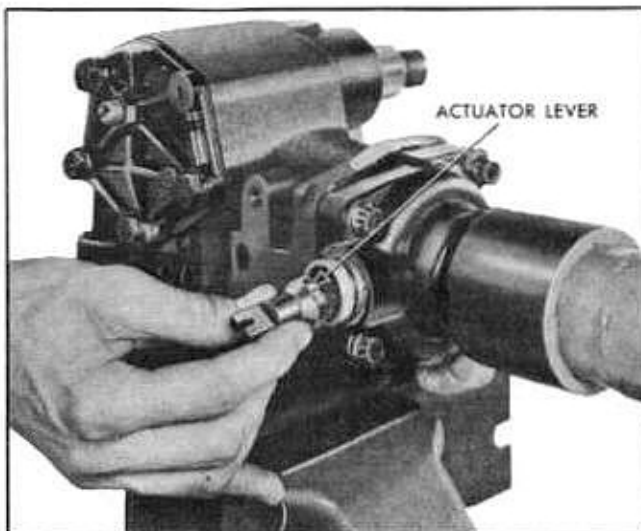

Fig. 9-27 Removing Actuator Lever
6. Remove actuator lever from end cover (Fig. 9-27).